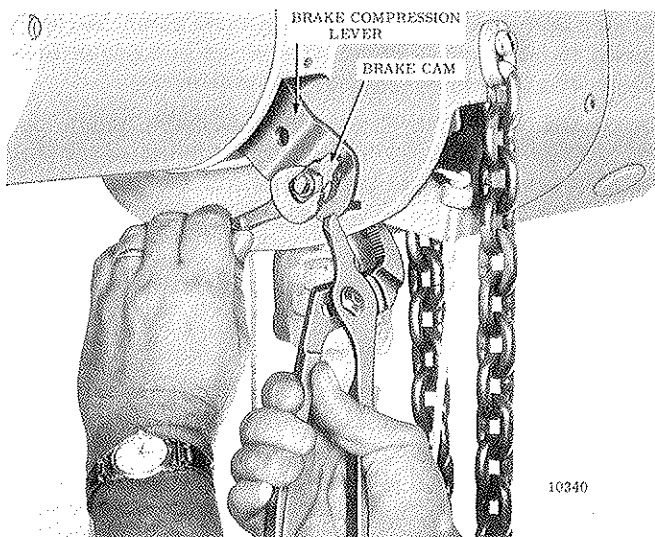

Figure 7-42. Adjusting Manual Motor Brake (Pull Cord Models)
(1) Pull down on end of limit lever at tail chain side of hoist (left side, viewing hoist from cover end) and note direction of lower block travel. It should travel in a lowering direction.
(2) Pull down on opposite end of limit lever (right side, viewing hoist from cover end) and note direction of lower block travel. It should travel in a raising direction.
(3) If hoist does not operate or operates in wrong direction, check for improper wiring. Refer to par. 6-2 and appropriate wiring diagram. If wiring is correct, check to see that limit switch is correctly installed, par. 7-6, (c).
(4) As a final check, operate hoist (no load) in the lowering direction and allow tail chain to trip limit lever. Hook should stop. Repeat check in hoisting direction and allow lower block to trip limit lever. Hook should stop. On push button models, hook should reverse direction of travel.
d. **Adjust Motor Brake.** On pull cord control model hoists only, the motor brake will require adjustment whenever the brake cam is removed. Compress brake compression lever using pliers (fig. 7-42), move cam away from nut and tighten or loosen nut with open end wrench as required to obtain approximately 1/16" between cam and nut when lever is in released position.
(1) Operate hoist to raise load. When control is released, hoist should instantaneously stop and hold load at that level.
(2) Operate hoist to lower load a short distance, then release control. Hoist should stop instantaneously and hold load at that level.
(3) If hoist does not stop or hold load refer to Section VI.